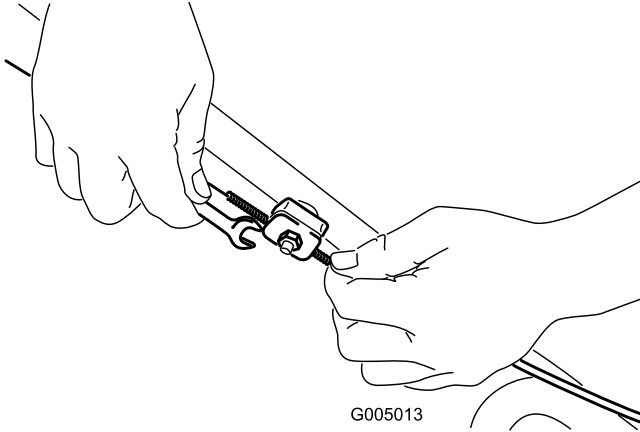

Figure 40
1. Loosen the cable support nut (Figure 40).